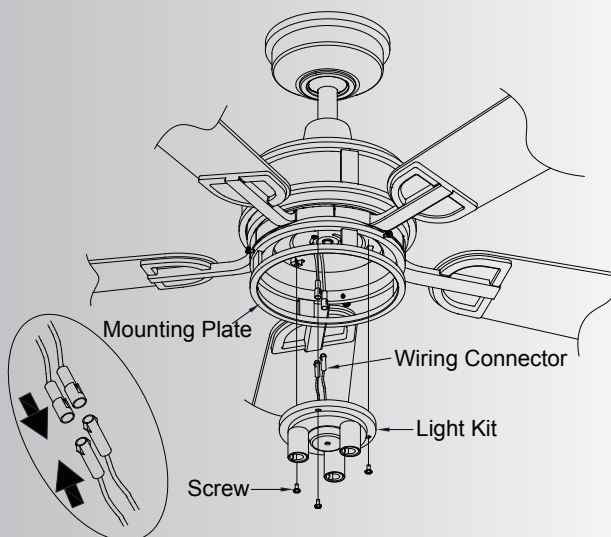

Fig. 22
Step 2. Remove the 3 preinstalled screws from the mounting plate as shown. Save them for reuse on step 3. (Fig. 22)
Step 3. Hold the light kit close to the mounting plate and connect the WHITE wires from the mounting plate and fan by pushing the connectors together. Follow the same procedure with the BLACK wires. (Fig. 22)
Step 4. Tuck the connections neatly into the light kit. Align the screw holes on the light kit and mounting plate. Securely tighten all 3 screws removed previously. (Fig. 22)